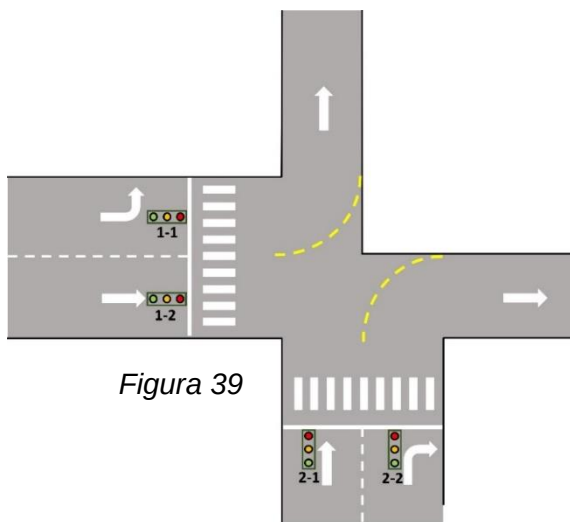

Figura 39
- “Draft Layout_4 luci” **Figura 39**